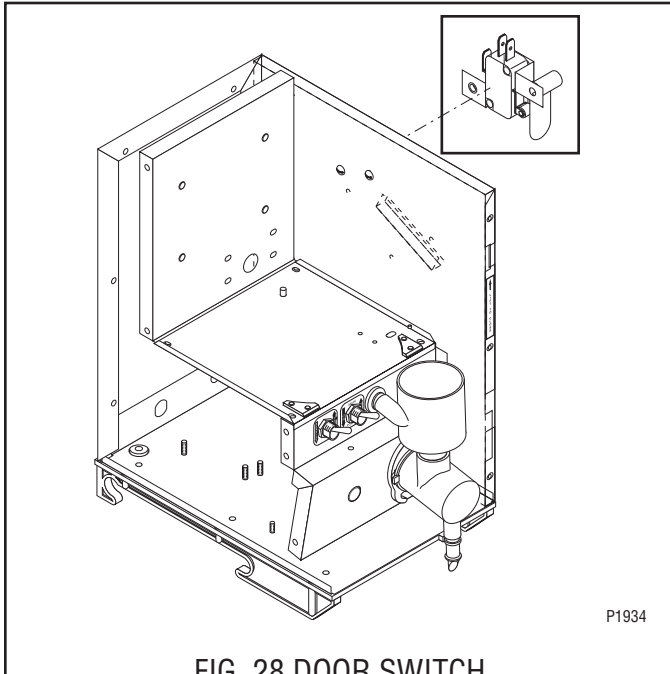

FIG. 28 DOOR SWITCH
15. Install the door switch actuator orienting the notched side against the right side housing panel. Refer to Fig. 28.